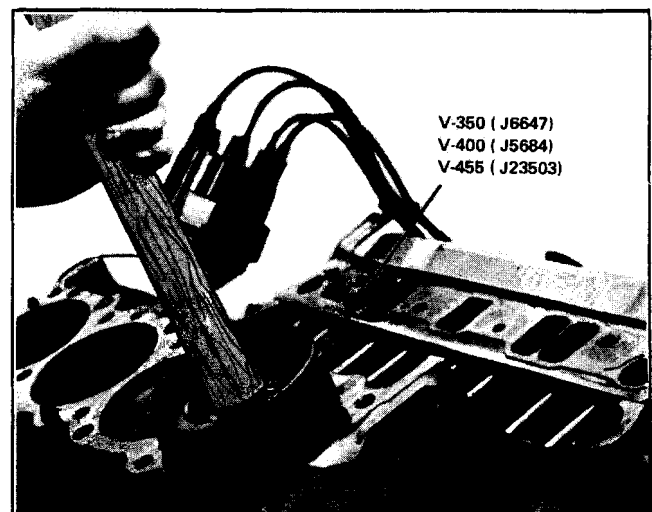

Fig. 6-153 Installing Piston Assembly
2. Using proper ring compressor, insert piston connecting rod assembly into cylinder so that notch in top of piston is toward front of engine. Be certain oil spurt hole in connecting rod is toward camshaft (Fig. 6-153).